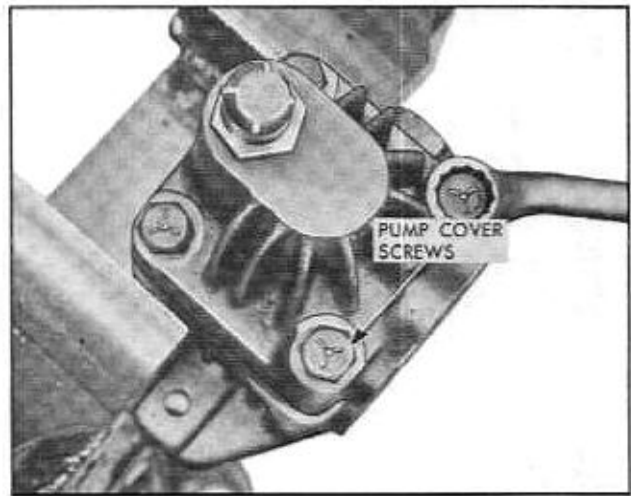

Fig. 9-72 Removing Pump Cover Screws
6. Remove four pump cover to pump body attaching screws (Fig. 9-72). **NOTE:** Do not clamp on front hub of pump as this may damage the bearing housed therein.